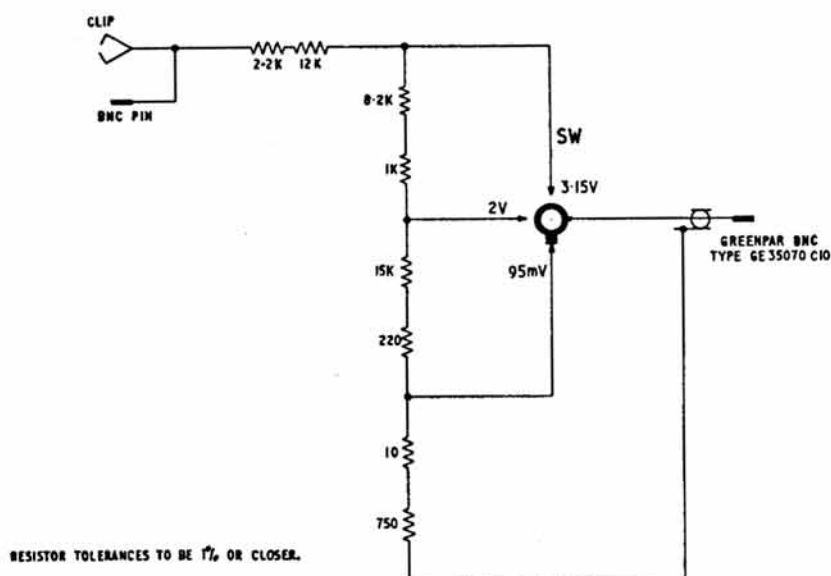

Fig. 9. Calibrator Signal Divider Unit
- (1) Multimeter. AVO 8 or similar.
- (2) Dynamco 71 series 10KV display unit (calibrated).
- (3) Dynamco 71 series Y-module (calibrated).
- (4) Display unit to module extension leads. (Dynamco 7148).
- (5) Calibrator signal divider unit. (See Fig. 9).
- (6) Time marker generator producing sinewave or pulse from 1s to 20ns $\pm 1\%$ e.g. Tektronix 184.
- (7) Compensated 10 : 1 probe.
- (8) BNC T-junction e.g. Greenpar Eng. Co. GE35031.